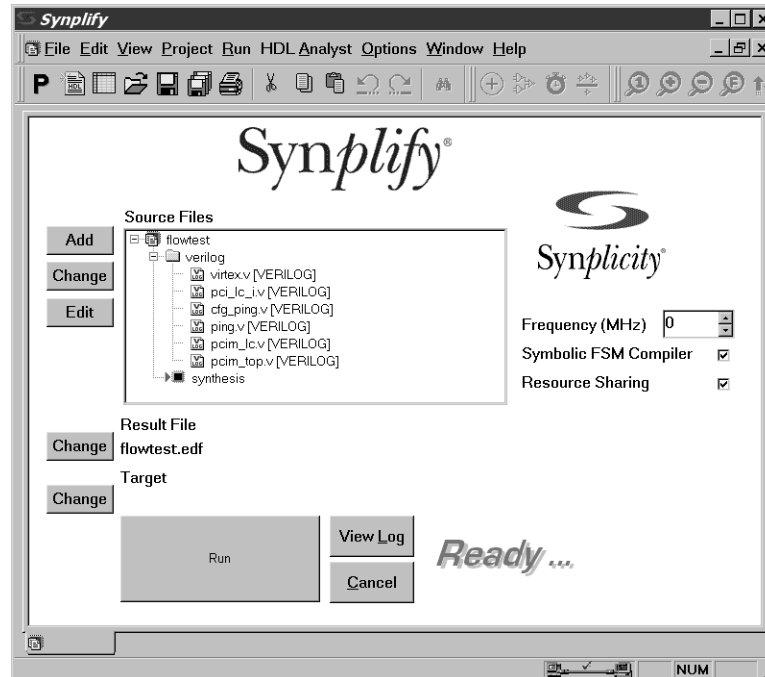

Figure 5-10: Main Project Window with Source Files
9. In the Source Files list, view the list of newly added source files by double-clicking the flowtest/verilog folder (if it is not already open). Reorder the source files in the folder by dragging them to list them in the hierarchical order displayed in Figure 5-10.